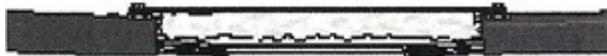

Figure 15
2. Loosely wrap perforated aluminum foil around one group of conductors and secure it in place with a tie wrap. Refer to Figure 15.